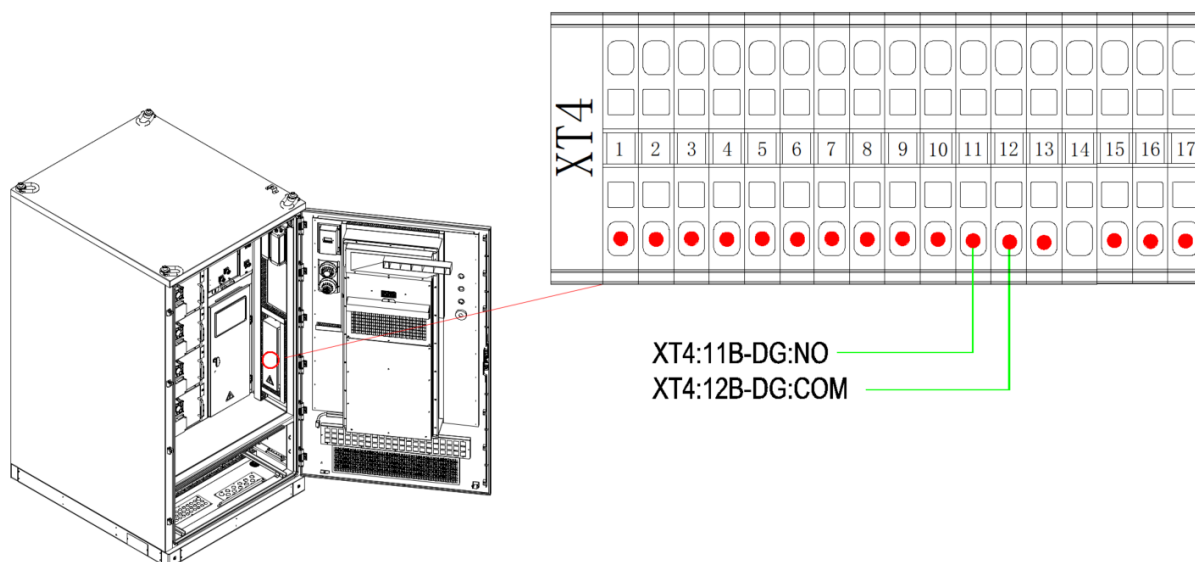

Figure 4-13
2. Connect the dry contact (NO/COM) of the diesel generator to the system cabinet (XT4:11B/XT4:12B). Refer to Figure 4-13.